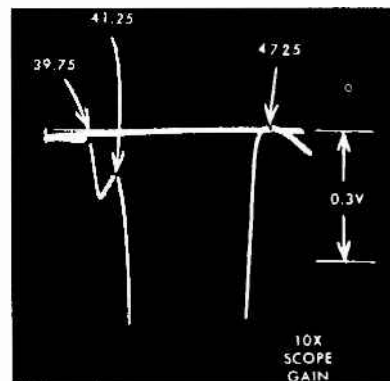
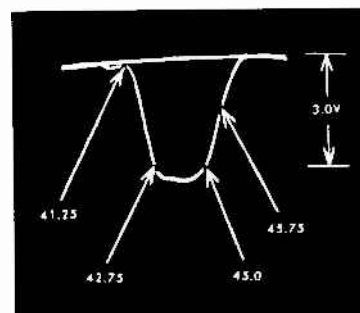
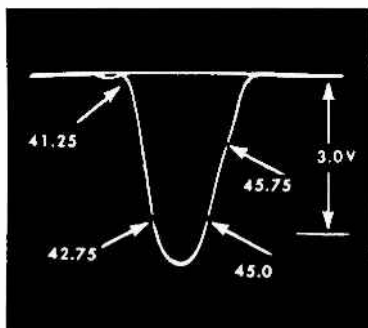

Fig. 6 Expanded View of Traps
Fig. 8 Overall IF Response
Fig. 9 Overall IF Response
5. Connect the sweep generator to terminal "A" (converter grid, Fig. 1, 2 or 3 depending on tuner). Connect terminal "F" to chassis and connect a jumper between terminal "E" and chassis. Adjust-sweep to obtain a 3V.P.P. response somewhat similar to Fig. 8. Switch oscilloscope to 10X gain to "blow up" the traps, (Fig. 6).
6. Refer to Fig. 6 and adjust the 39.75 Mc and the 41.25 Mc traps for minimum marker amplitude. Disconnect the jumper between "E" and chassis. Connect this jumper between "E" and the junction of the 22 (68 in the 16J27 chassis) and 1500 ohm resistors in the cathode of the first I.F. This pro-
7. Disconnect the jumper between "E" and the 22 and 1500 ohm cathode resistors. Connect this jumper between "E" and chassis. In the 16J28 chassis switch the adjacent channel reject switch to the "out" position. Adjust sweep generator for 3 volts peak to peak output. Alternately adjust the 2nd, 3rd, 1st I.F. and the converter plate coil until an overall response similar to Fig. 8 (Fig. 9 for the 16J27 chassis) is obtained. It will be found that the 2nd I.F. affects the low side (42.75 Mc) and the 3rd I.F. the high side of the response.